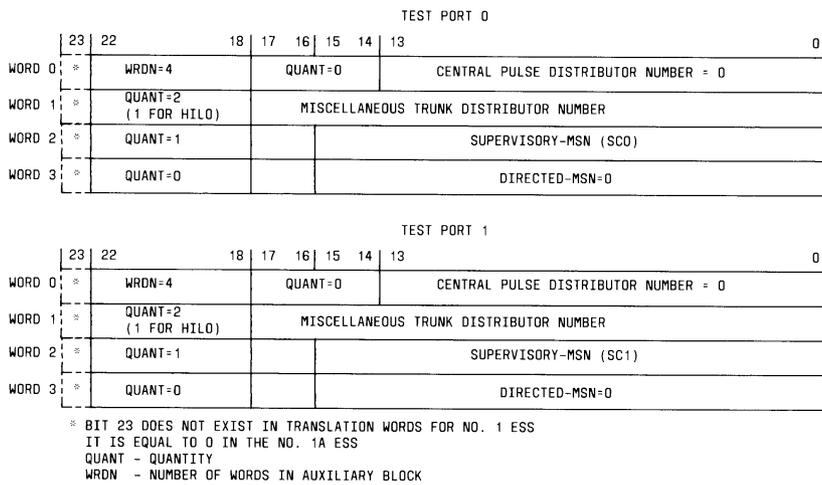

Fig. 7—TNN-to-PEN Auxiliary Blocks
4.06 The trunk network number to peripheral equipment number (TNN-to-PEN) auxiliary block contains the information shown in Fig. 7.